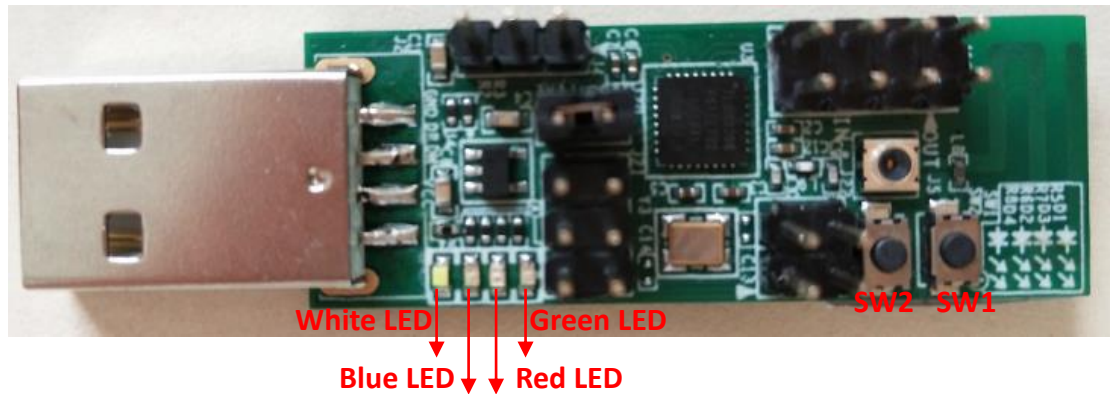

Figure 2 Telink BLE Dongle demo
Telink sample BLE dongle is shown in Figure 2.
3. Click the “OTA Start” button on the “KeySimTool” interface (as shown in Figure 4), the blue light of the dongle (as shown in Figure 2) will be turned on to indicate the dongle is in OTA mode.